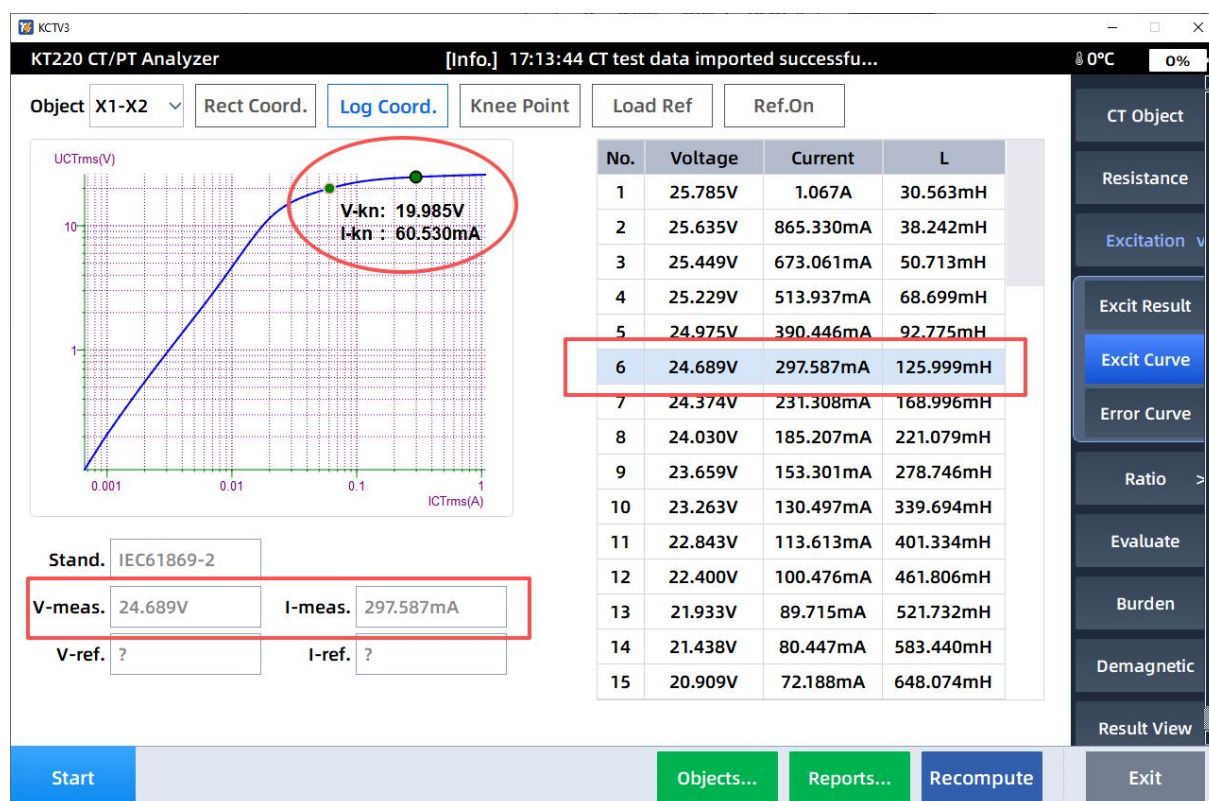

Figure 6-5
4. Click any data in the table to display the corresponding point on the curve, as shown in Figure 6-5, for convenient knee point comparison.